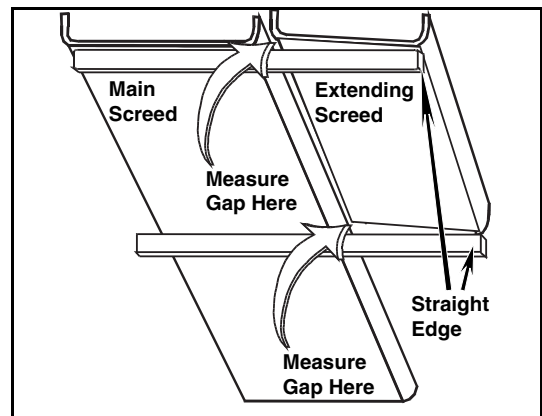

Figure 3 - 23 Checking Pre-Torque
- 2) Place a straight edge at the center area of the main screed and use the Slope switch to increase or decrease the rear extending screed slope until it just contacts the straight edge (Figure 3 - 23).